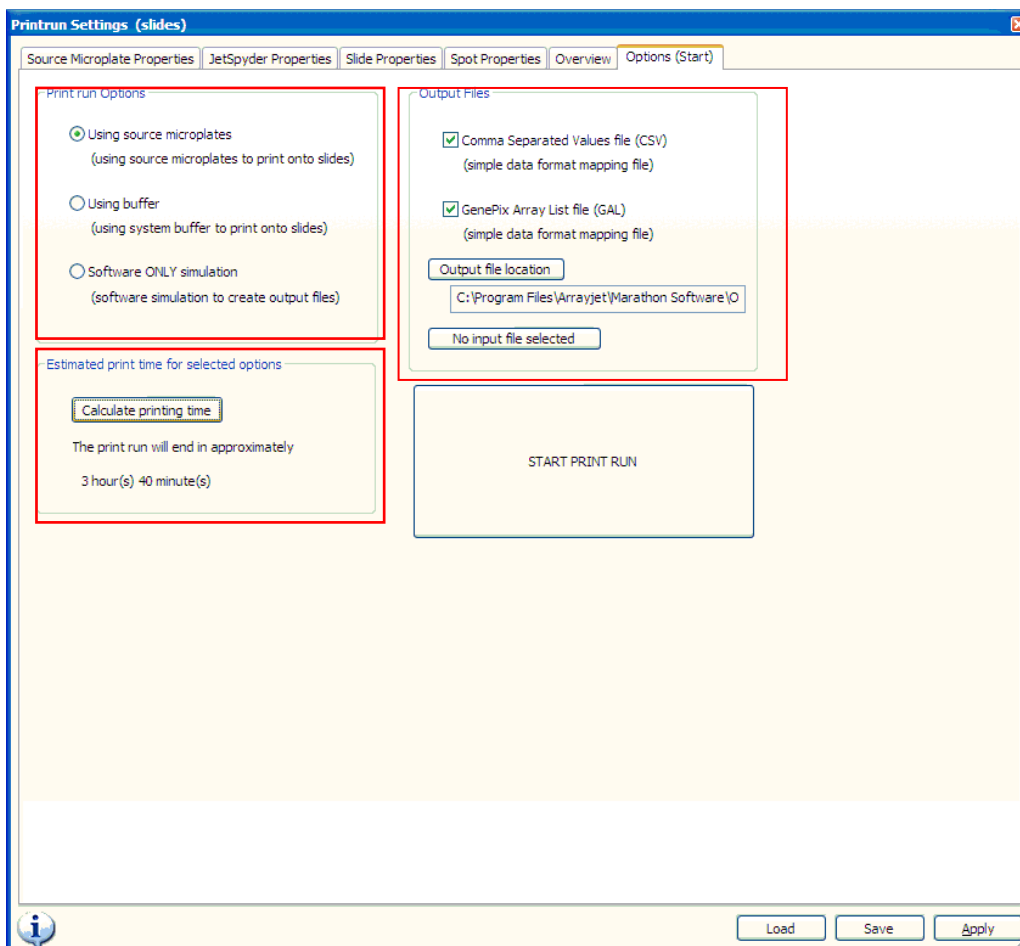

Figure 6-11 The Start tab
- Navigate to the **Start** tab (**Figure 6-11**)